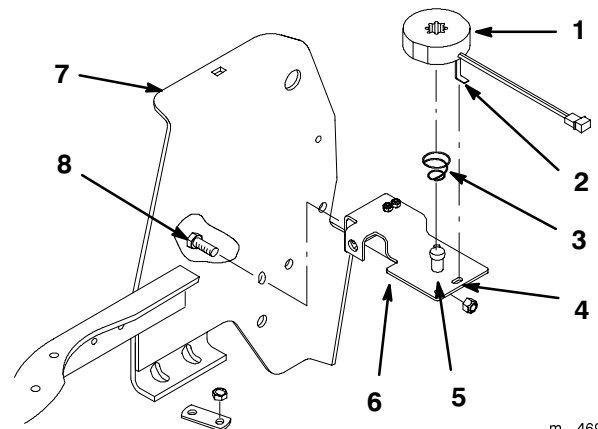

Figure 5
1. Loosen bolts that connect bracket to frame (Fig. 5).
2. Slide the spring and magnet on to post and with the flange from magnet installed into slot in cruise bracket (Fig. 5).
3. Tighten the cruise bracket (Fig. 5).